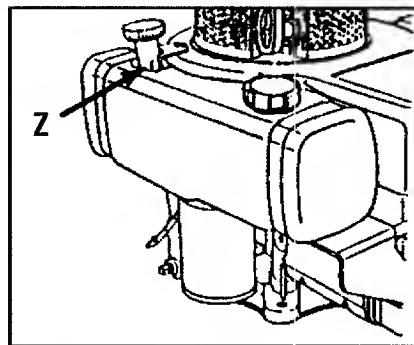

Figure 2-10: Engine oil fill.
3. Remove dipstick (Z, Figure 2-10) from engine.